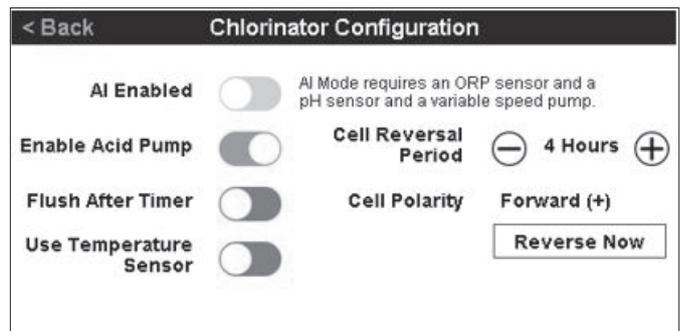

Figure 10. Halo Chlorinator Configuration Screen
3. Move the “Enable Acid Pump” switch to the right as shown in Figure 10 to enable dosing. Press the “Back” button twice to return to the main chlorinator screen.